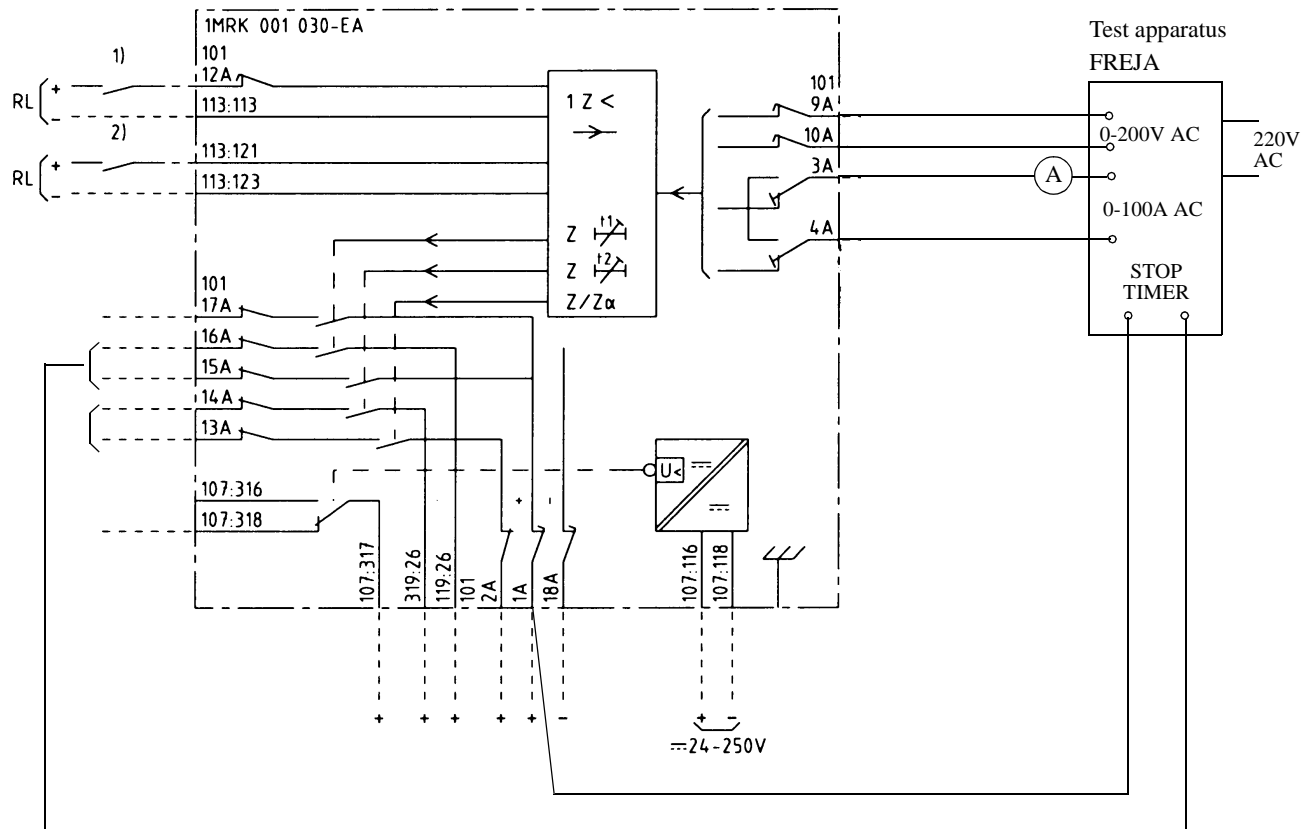

Fig. 38 Connection of test apparatus for testing of phase L1
**1.Connections:** Connect the test set according to figure 38 to test the relay functions for phase L1 and insert the test-plug into the test switch.